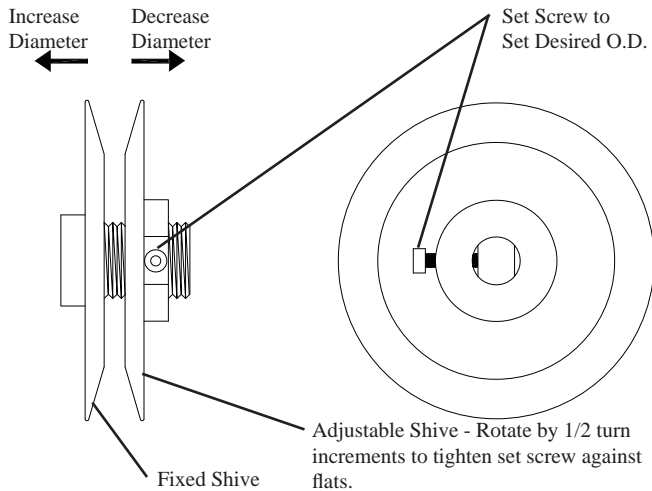

Fig. 1
3. Loosen pulley adjustment set screw on motor pulley and screw adjustable shive out away from fixed shive. Tighten set screw onto flat of fixed screw (FIG. 1).